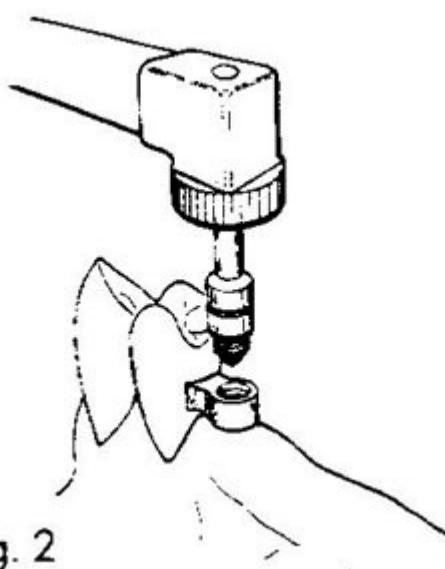

Fig. 2
2. Use the Mini Diamond Sizing Bur #4922 with water coolant to create an upper seat in the female for the ZAAG Female to fit in to (**FIG 2**).